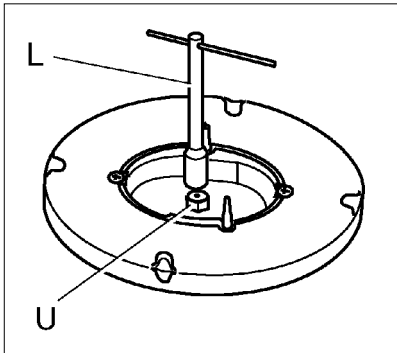

FIG. 5
- › Unscrew nozzles U (Fig.5) and U1/U2 (Fig.6) using a socket spanner (L), and replace with the correct nozzle for the available gas type.